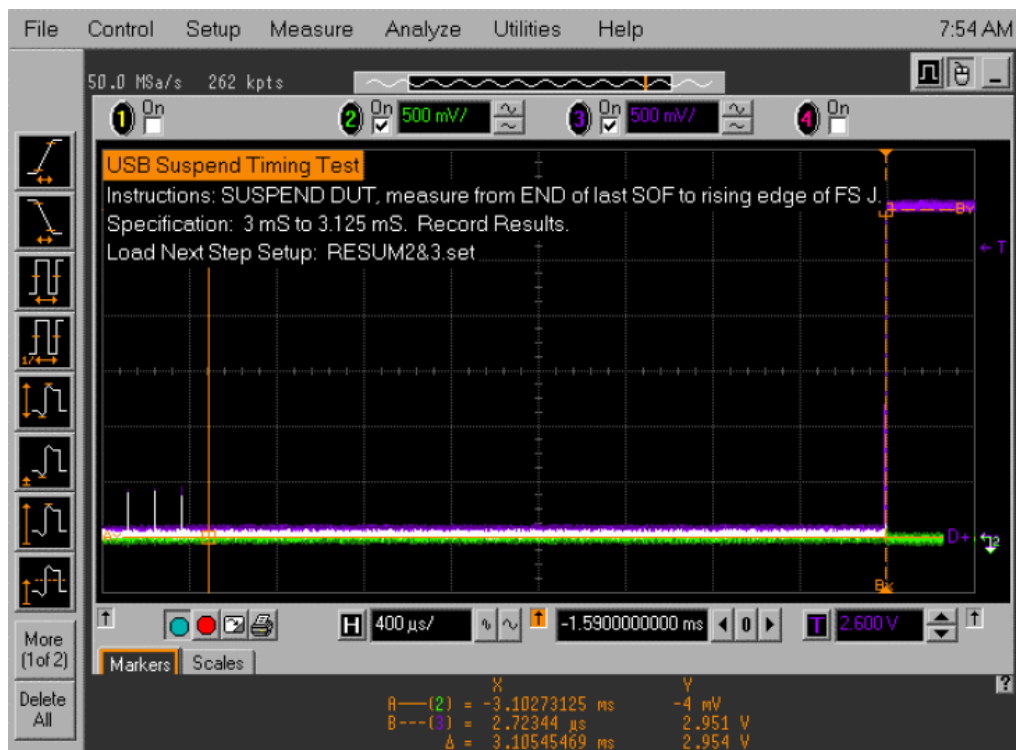

Figure 45. Device suspend waveform
- once to place the device into suspend. The captured suspend transition should appear as in Figure 45.